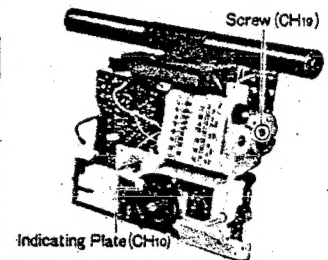

Fig. 4
2. Pull out indicating plate, as shown in fig. 4.
3. Remove the one (1) drum screw, as shown in fig. 4.